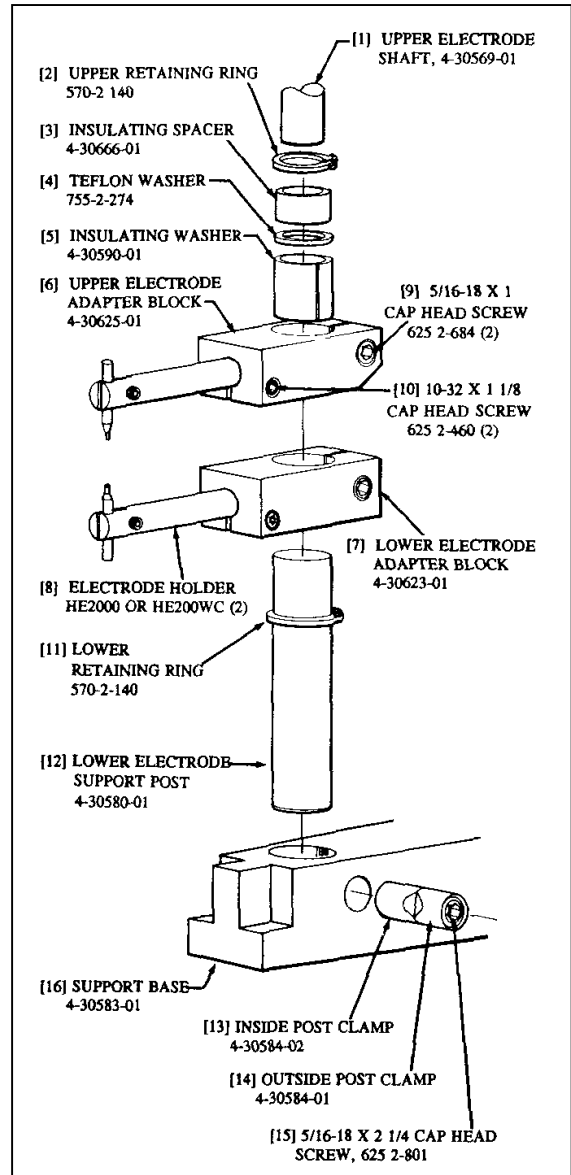

Figure 5-6. Offset Electrode Holder Exploded View
- 2 Reference Figure 5-6. Install the INSULATING SPACER, item [3] followed by the TEFLON WASHER, item [4].
- 1 Reference Figure 5-6. Remove the In-Line Electrode Holders parts by following the procedure outlined in Section 8.03. DO NOT REMOVE THE UPPER RETAINING RING, ITEM [2], FROM THE UPPER ELECTRODE SHAFT, ITEM [1].